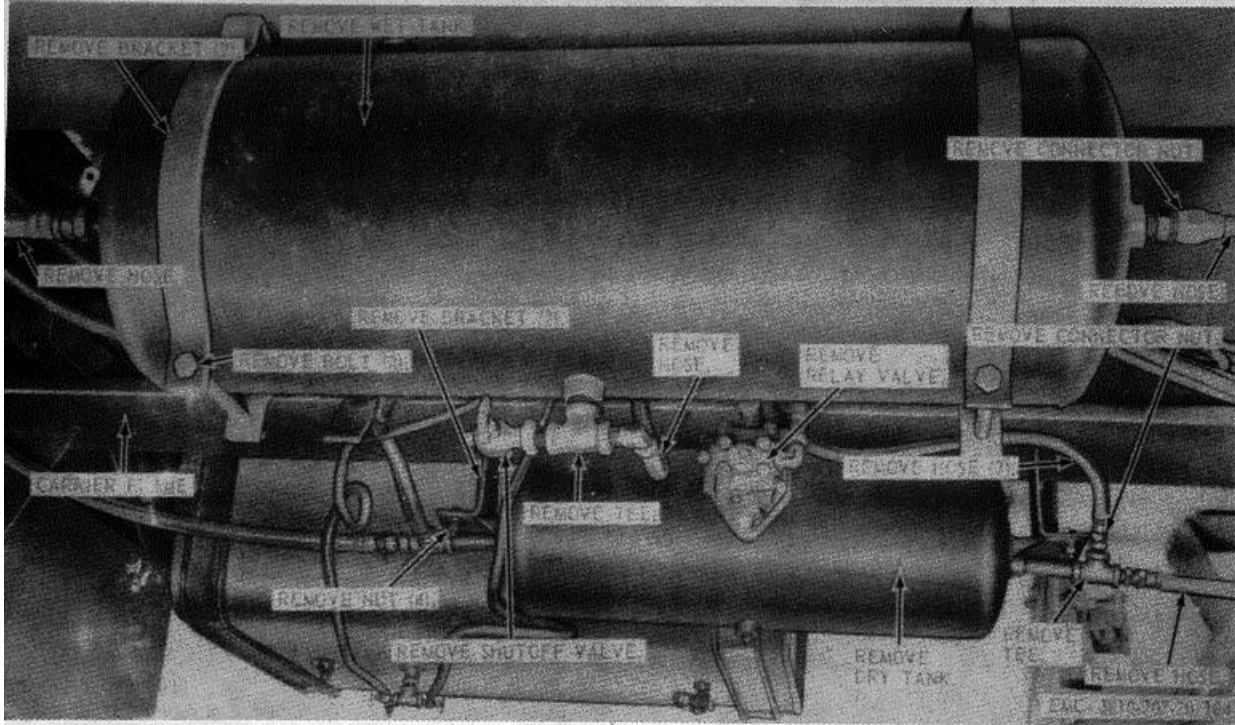

Figure 184. Wet and dry air tank, removal and installation.
a. *Removal.* Remove the wet and dry air tanks as instructed on figure 184.
- (1) Clean all parts with an approved cleaning solvent.
- (2) Inspect the wet and dry tanks for cracks, holes, or other damage. Replace a defective wet or dry tank.
- (3) Inspect all fittings and mounting hardware for stripped or damaged threads. Replace as necessary.
(4) Inspect all hoses for cracks, breaks, and deterioration. Replace all defective hoses as necessary.
c. *Installation.* Install the wet and dry air tanks as illustrated on figure 184.